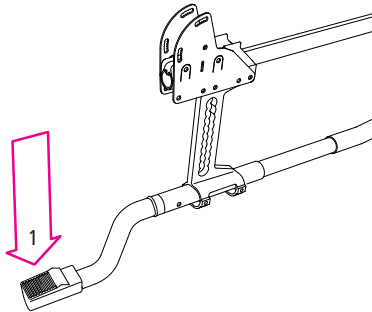

Fig. 25
2. Place your foot onto the lever (1, Fig. 25) and maintain balance using the handle.